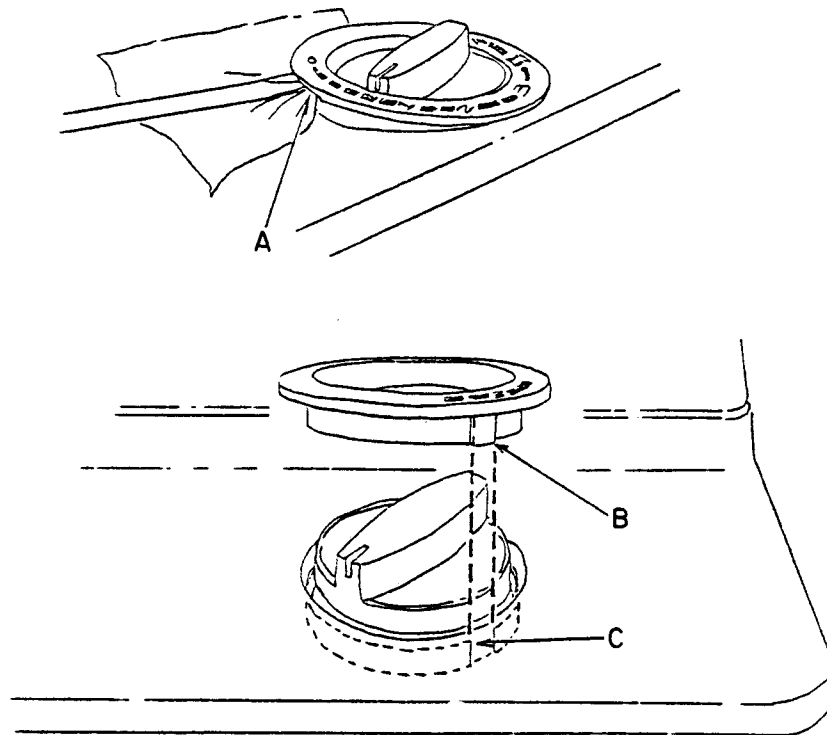

Fig. 7
1. Place vinyl, leather or cloth on bed to protect finish. Rest screwdriver on bed and place blade in recess (A) provided and lift to free dial ring. Note, the locating pin on the underside of the dial ring must be inserted into the corresponding hole in the bed. (Fig. 7).